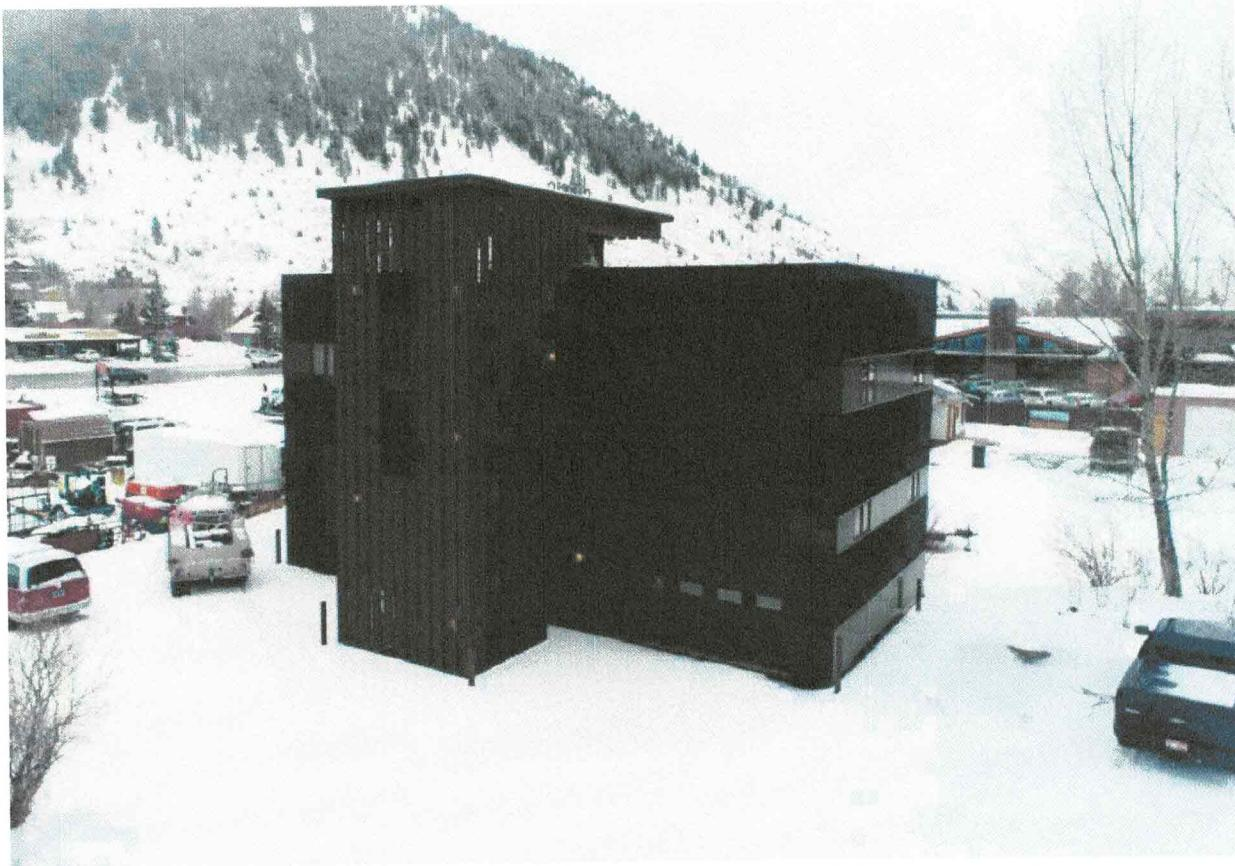

Figure 5: Existing Building
**Existing Condition:** The existing building is a mixed-use. The bottom floor has two areas rented for commercial storage spaces. The upper floor has two apartments for residential living. The front of the building has a covered stairwell for access to the apartments and patio roof. Figure 5 below shows the existing building.